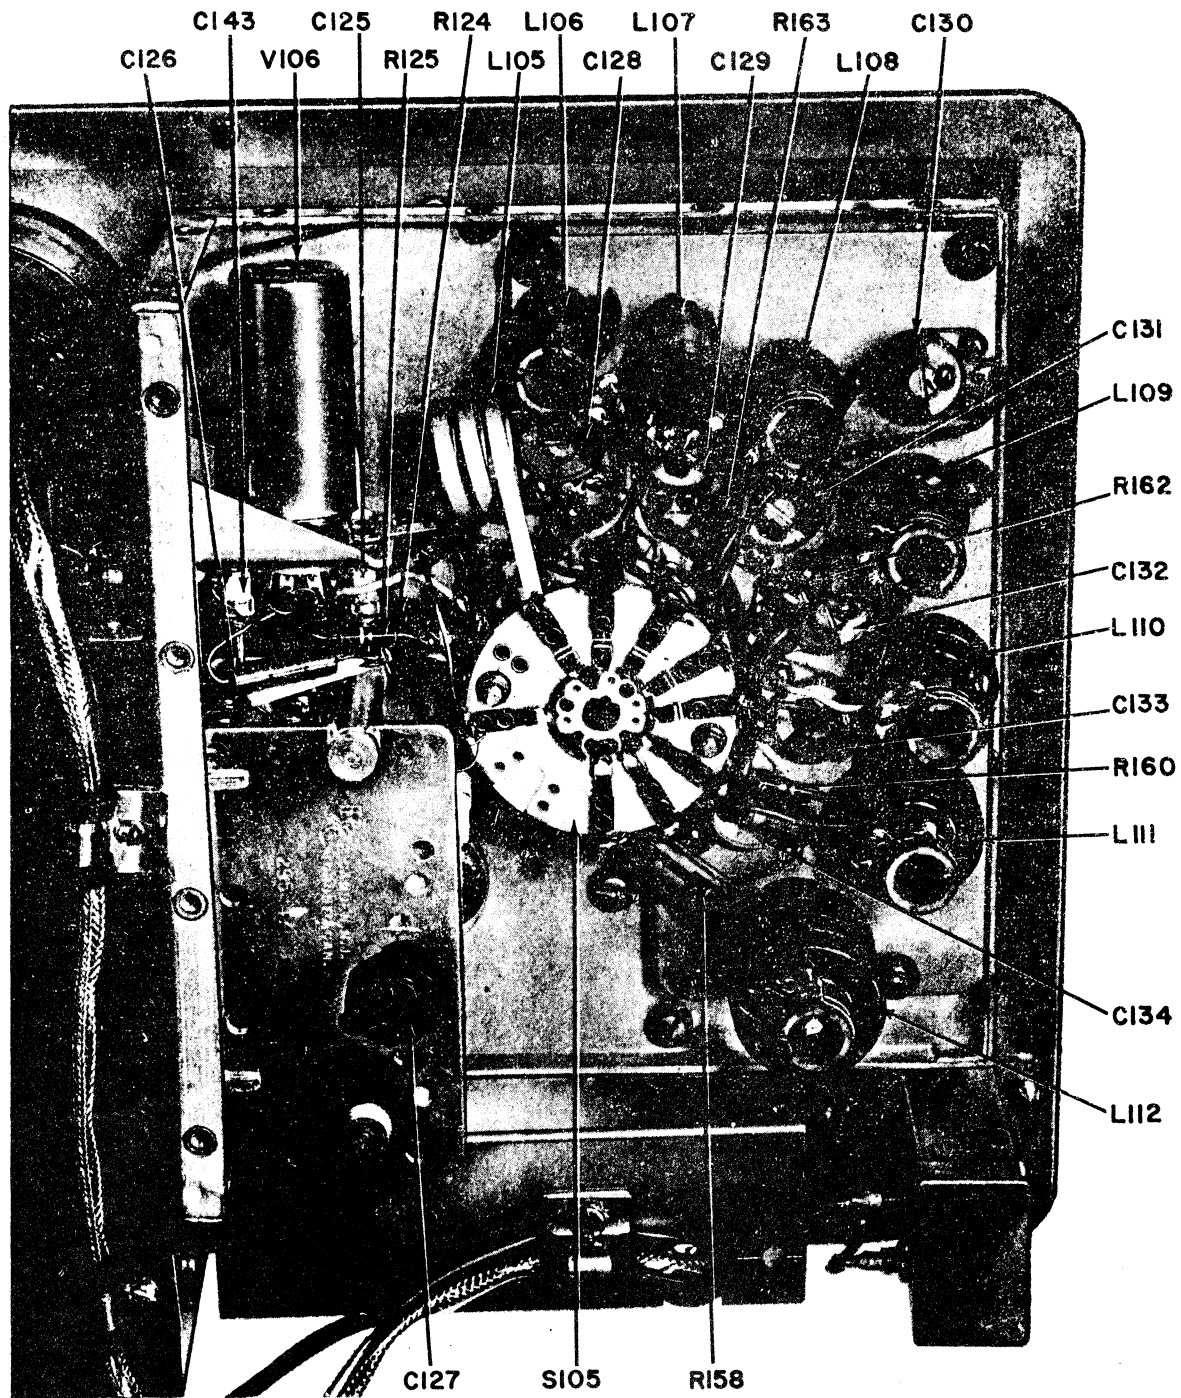

Figure 6-7. Interior View of Carrier Oscillator Compartment
(See figure 6-7)
Figure 6-7 shows the locations of the trimmers and inductances that may require readjustment. Make sure that only the parts relevant to the frequency band being calibrated are adjusted. Follow the calibration procedure and do not turn screws indiscriminately.
(See figures 6-7 and table 6-1)
(See figure 6-7 and table 6-1)
(1) Identify the coil that must be readjusted (See figure 6-7).
(2) Set the main tuning dial (I-103) at the selected calibration point for the range in question.
(3) Note the original position of the core slot in the coil form. Move the core slightly in the required direction.